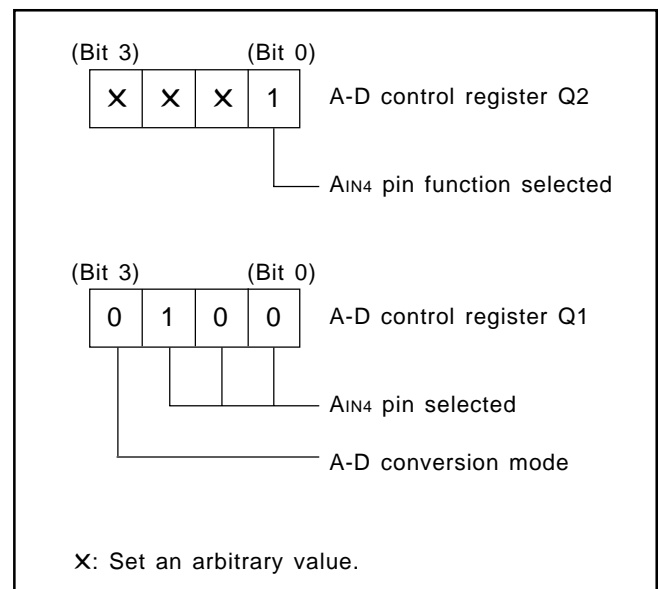

Fig. 35 Setting registers
- ① Select the AIN4 pin function with the bit 0 of the register Q3. Select the AIN4 pin function and A-D conversion mode with the register Q1 (refer to Figure 35).
- ② Execute the ADST instruction and start A-D conversion.
- ③ Examine the state of ADF flag with the SNZAD instruction to determine the end of A-D conversion.
- ④ Transfer the low-order 2 bits of converted data to the high-order 2 bits of register A (TALA instruction).
- ⑤ Transfer the contents of register A to $M(Z, X, Y) = (0, 0, 2)$.
- ⑥ Transfer the high-order 8 bits of converted data to registers A and B (TABAD instruction).
- ⑦ Transfer the contents of register A to $M(Z, X, Y) = (0, 0, 1)$.
- ⑧ Transfer the contents of register B to register A, and then, store into $M(Z, X, Y) = (0, 0, 0)$.